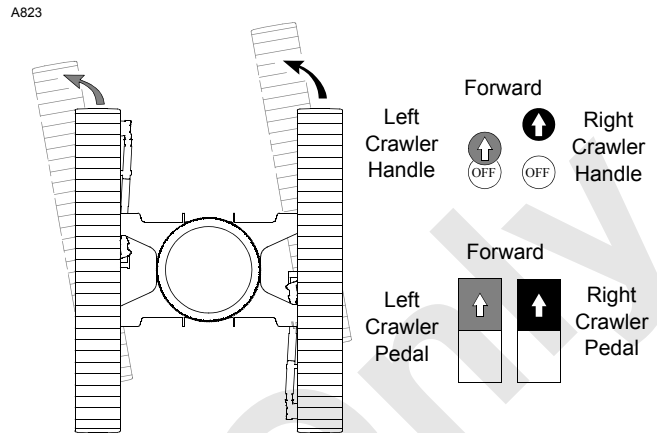
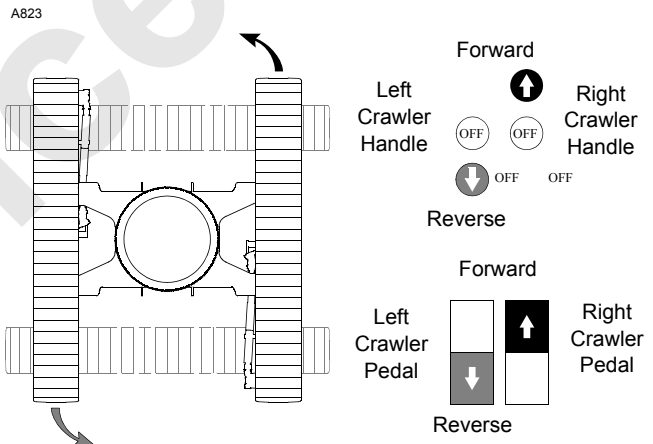

FIGURE 3-23
FIGURE 3-24
- Make gradual turns (Figure 3-23) or counter-rotate (Figure 3-24) whenever possible so both crawlers are always powered.
- To make a GRADUAL LEFT TURN (Figure 3-23), move both crawler handles/pedals to front from off, but move right crawler handle/pedal farther to front than left
- To COUNTER-ROTATE LEFT (Figure 3-24), move right crawler handle/pedal to front from off and move left crawler handle/pedal to rear from off.